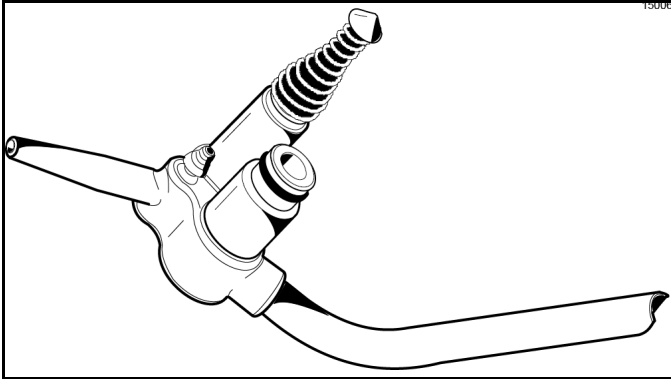

Figure 6-24
- Put the rubber poppet into the small end of the spring. Attach the spring and poppet to the end of the pressure relief fitting. The spring and poppet must be securely fastened and must not be allowed to float freely. (See Figure 6-24.)